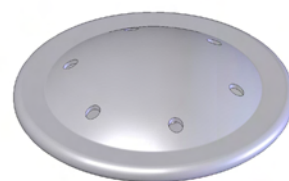

FIG 15-3
3. With the sprayhead removed, insert the deliming spring (provided) all the way into the sprayhead tube. When inserted properly, no more than two inches of spring should be visible. Saw back and forth five or six times. FIG 15-3. **NOTE** – In hard water areas, this may need to be done daily. It will help prevent liming problems in the brewer and takes less than a minute.